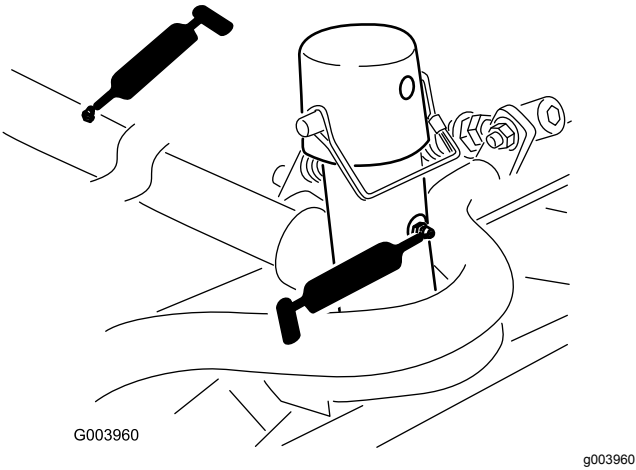

Figure 76
- Cutting-unit carrier-frame and pivot (2 each) (Figure 76)